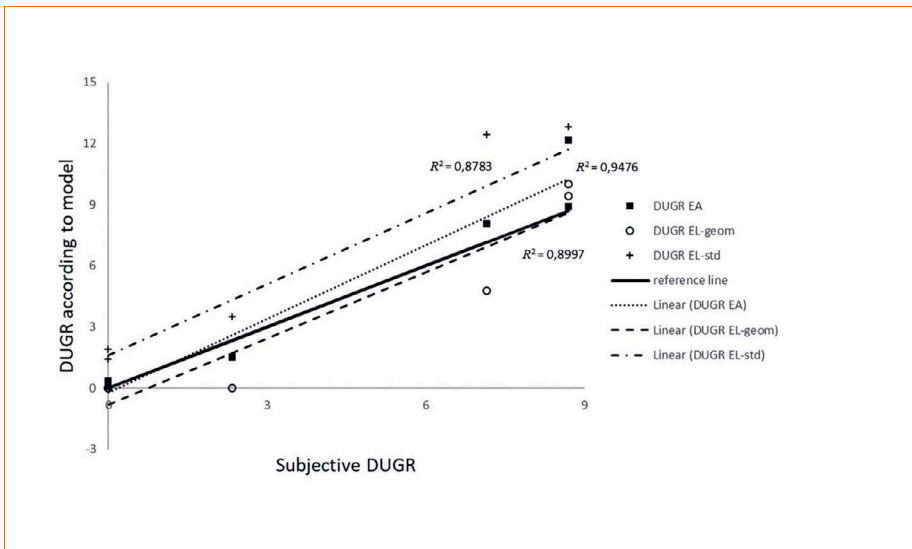

Figure 4: The difference in UGR (DUGR) between a non-uniform and a uniform glare source (experimental data of Utsunomiya University) [7]
The method chosen for the correction factor shown in **Equation (4)** was *EL-geom*, based upon an analysis of how the three potential methods correctly predicted the results from a number of research studies. The results from one of these studies is shown in **Figure 4** below.